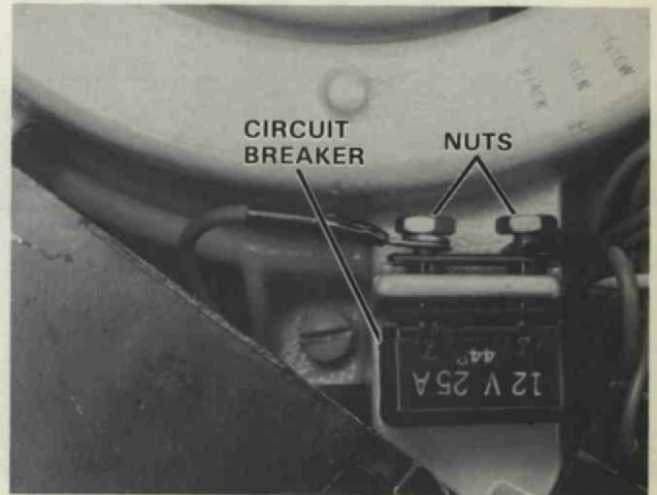

Figure 26. Removing Circuit Breaker.
2. Remove one screw securing rectifier to starter support. Figure 26.
3. Disconnect four (4) lead wires.
2. Remove nuts and lead wires from circuit breaker terminals. Figure 26.